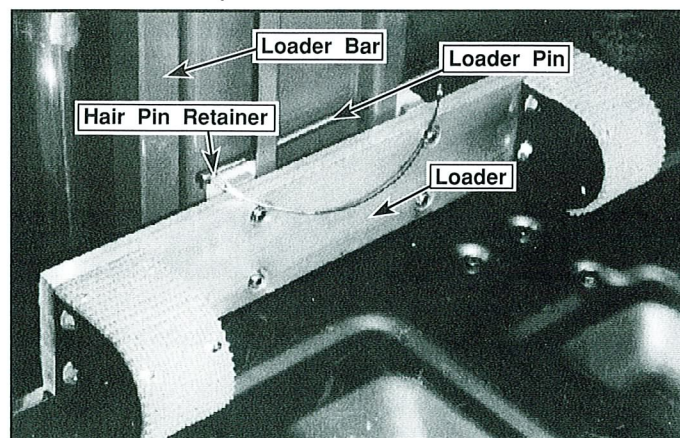

Figure 5: Loader in load position
3. Remove the loader pin and slide the loader down until it comes into contact with the vehicle bed (Figure 5). Then replace the loader pin in the first available set of holes **above** the loader and secure with the hair pin retainer.